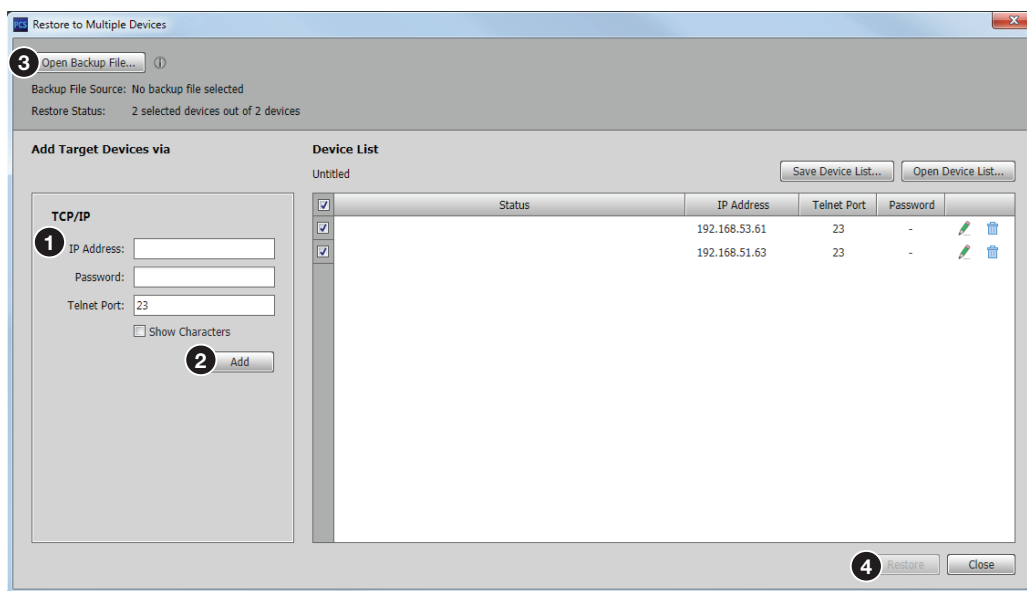

Figure 43. Restore to Multiple Devices Dialog Box
- a. In the **TCP/IP** panel (see figure 43, ❶), enter the IP address, password, and Telnet details in the appropriate fields for a desired target device.